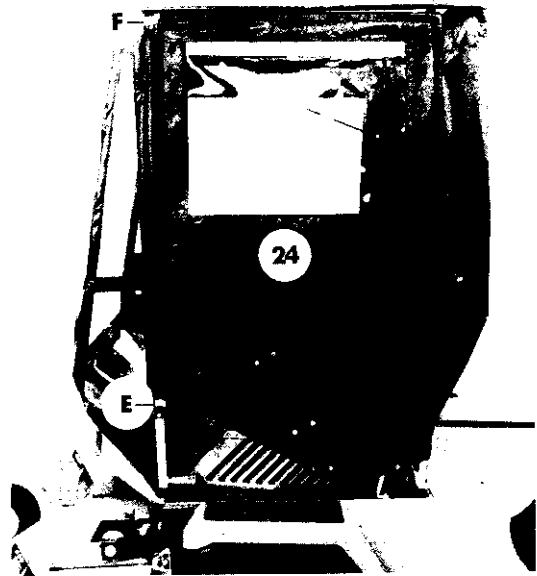

FIGURE 12
**STEP 12; SEE FIGURE 12:**
- A. Insert the rod at the bottom of the DOOR (24) into the door hinge at REFERENCE E. Slip a door hinge over the rod at the top of the door and secure it to the front post with a bolt and nut at REFERENCE F.